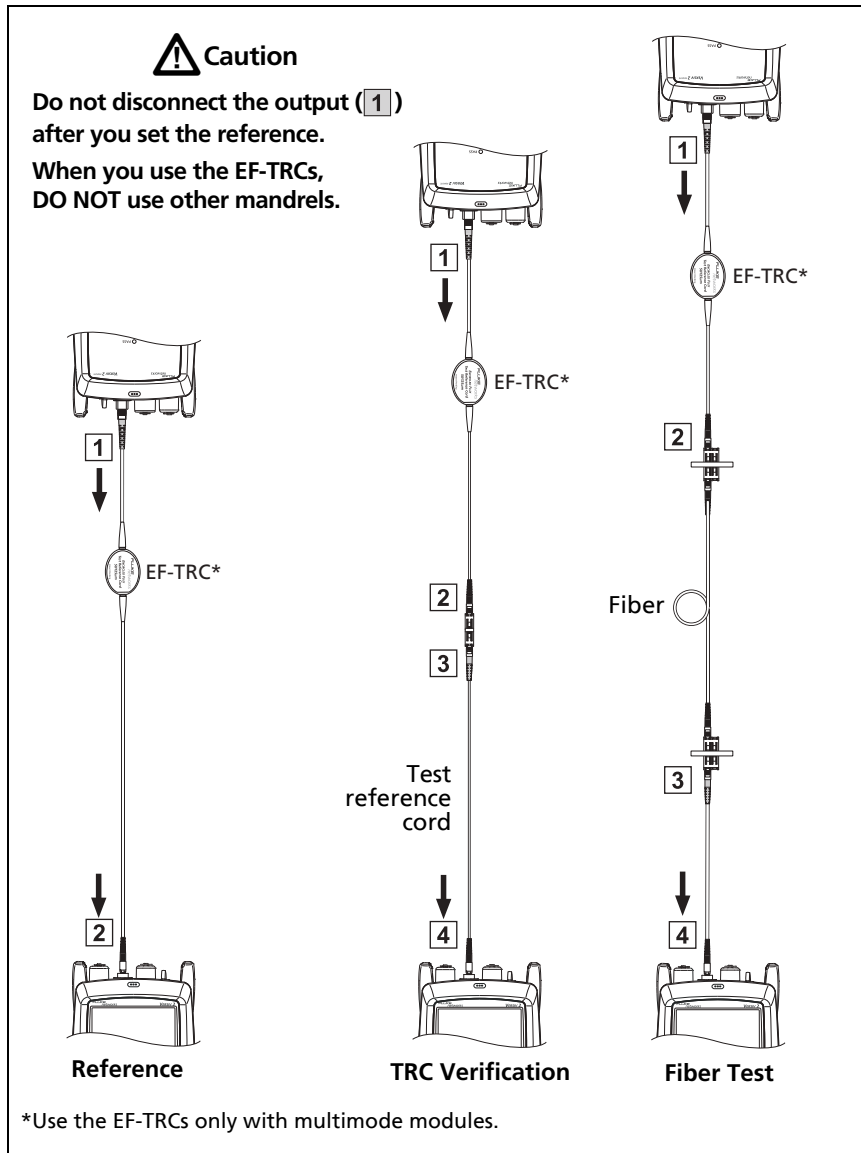

Figure 67. Connections for Far End Source Mode
- 1-7** Make the connections to set the reference as shown on the screen, then tap **NEXT** to see the completed connections. Figure 67 also shows the completed connections.
*The **SET REFERENCE** screen shows reference connections for the selected reference method. Figure 67 shows connections for the **1 Jumper** reference.*
- 2-2 Disconnect the test reference cord from the **INPUT** port on the tester, then use a test reference cord and adapter to make the connections to verify the TRCs, as shown on the screen and in Figure 67.
If the tester shows a warning, clean and inspect the connectors on the TRC, make sure the cords are straight as shown in Figure 67, then do the TRC verification again.
- 3-3 Make the connections to do the test on the fiber, as shown on the screen and in Figure 67, then tap **HOME**.